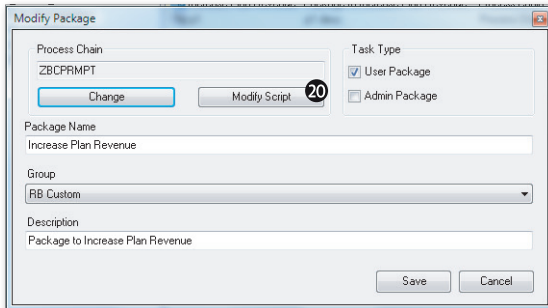

Figure 6.12 Creating Logic Script to Revalue Plan Data—Part I
- Next, you need to associate the logic script file with the data management package you created. In the EPM DATA MANAGER tab, select the ORGANIZE PACKAGE LIST to modify the data package you created. Select the INCREASE PLAN REVENUE package, and right-click on the MODIFY option. The MODIFY PACKAGE dialog box displays; click on MODIFY SCRIPT (Figure 6.12, 20).